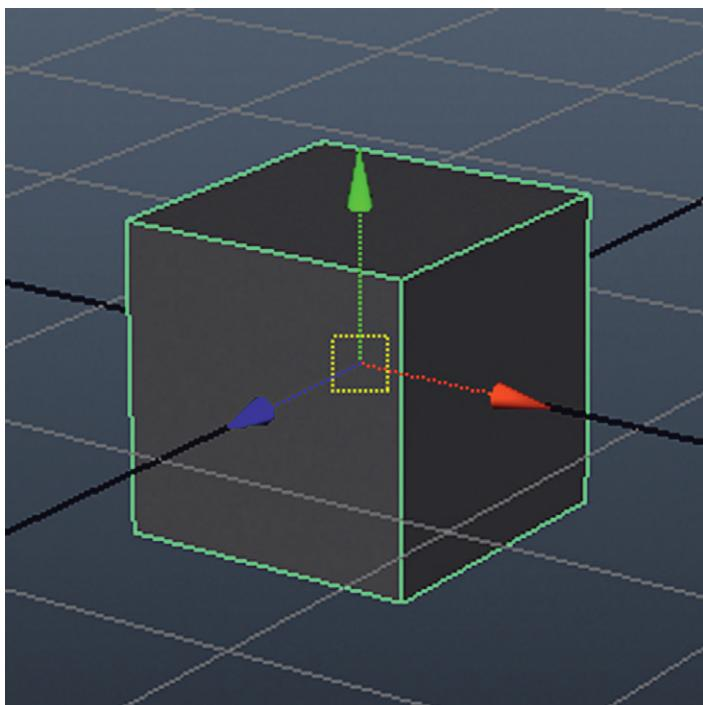

FIG 2.10 A selected object with the Move Tool active.
Step 6: Activate the Move Tool (Fig. 2.10).